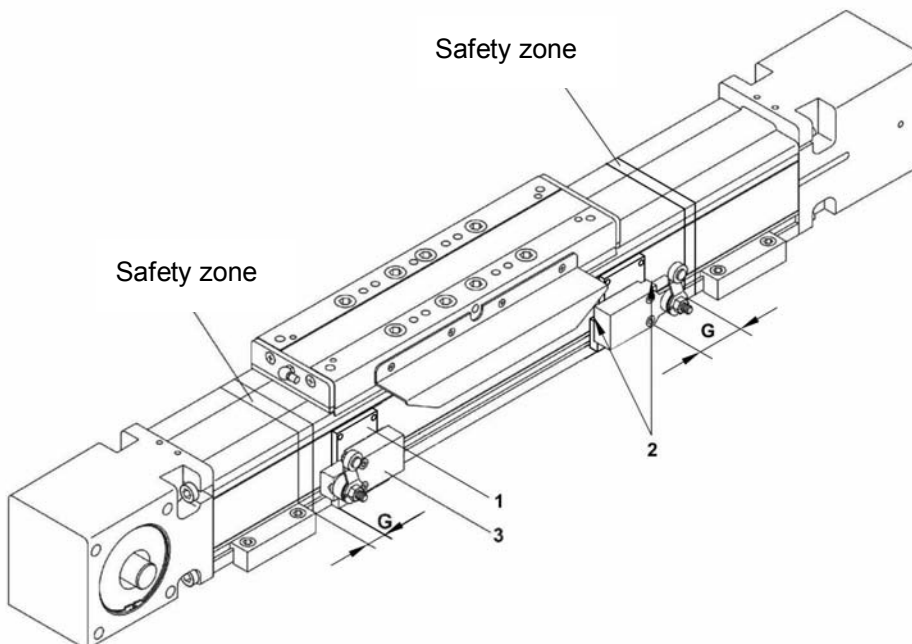

Fig. 5:
1. **Fig. 5:** Loosen the clamping screw (2) of the mounting plate (1).
2. Move the mounting plate with the limit switch (3) to the desired position.